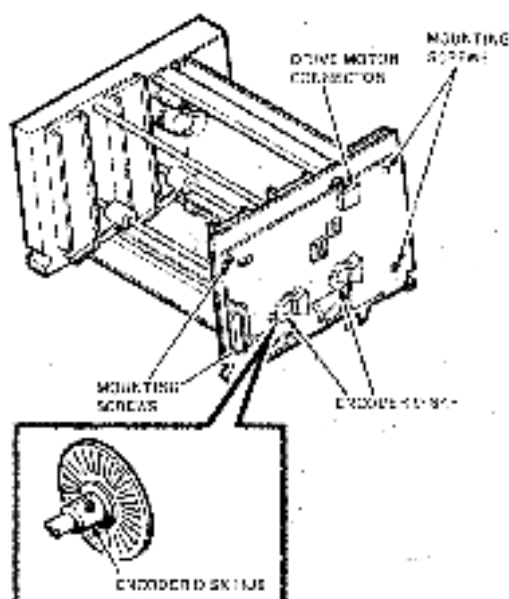

Figure 4-13 Control Unit PCB Removal
2. Disconnect drive motor connector from PCB (Figure 4-13).
3. Remove the four mounting screws and washers from PCB (Figure 4-13).
2. Using a 1.5 mm Allen wrench, loosen the set screw on left encoder disk hub (Figure 4-13).